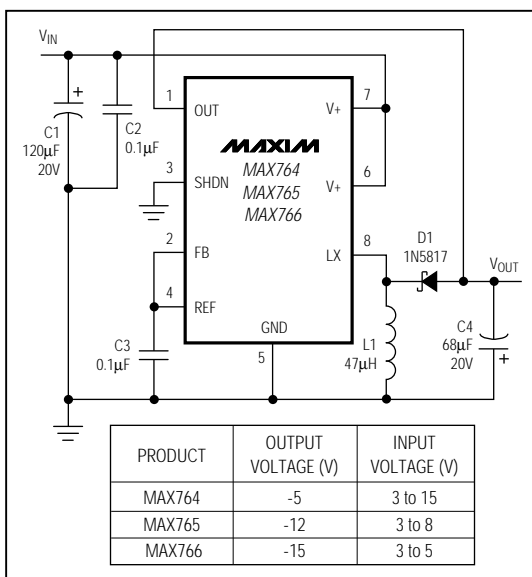

Figure 2. Fixed Output Voltage Operation
**Note 2:** Circuit of Figure 2.
CIRCUIT OF FIGURE 2,  $V_+ = 5V$ ,  $I_{LOAD} = 100mA$ ,  $V_{OUT} = -5V$
CIRCUIT OF FIGURE 2,  $V_+ = 5V$ ,  $V_{OUT} = -5V$
CIRCUIT OF FIGURE 2,  $V_{OUT} = -5V$ ,  $I_{LOAD} = 100mA$
CIRCUIT OF FIGURE 2,  $V_+ = 5V$ ,  $V_{OUT} = -5V$ ,  $I_{LOAD} = 140mA$
CIRCUIT OF FIGURE 2, V+ = 5V, VOUT = -5V, ILOAD = 80mA
CIRCUIT OF FIGURE 2, V+ = 5V, VOUT = -5V, ILOAD = 240mA